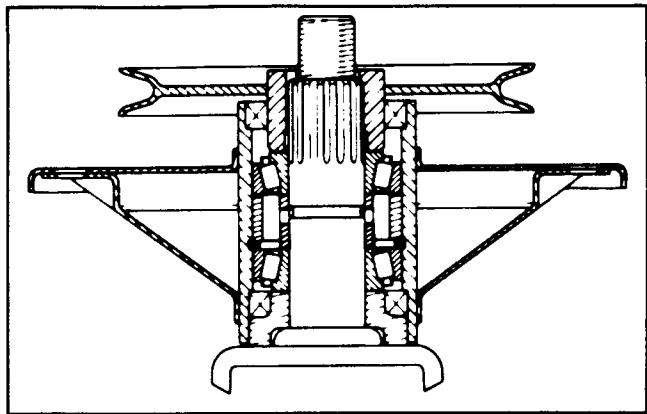

Figure 27
1. Install large snap ring into groove in bore of spindle housing (Fig. 27). Make sure snap ring is seated in groove.
4. Apply a film of grease to lips of both seals, then install bearing and seal into bottom of spindle housing. **BOTTOM SEAL MUST HAVE LIP FACING OUT** so old grease can be purged during lubrication (Fig 27).
7. Slide bearing spacer onto spindle shaft. Carefully slide spindle shaft through spindle housing. The bottom seal and bearing spacer fit together when the spindle is installed (Fig. 27).